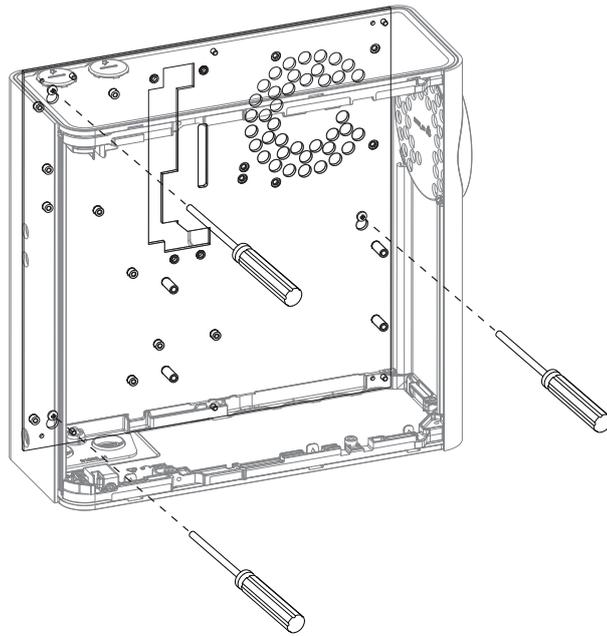

Figure 4-12: Locking screw
9. Insert an M4 screw at the small end of the detector's bottom-left keyhole, and tighten the other two screws (Figure 4-12).